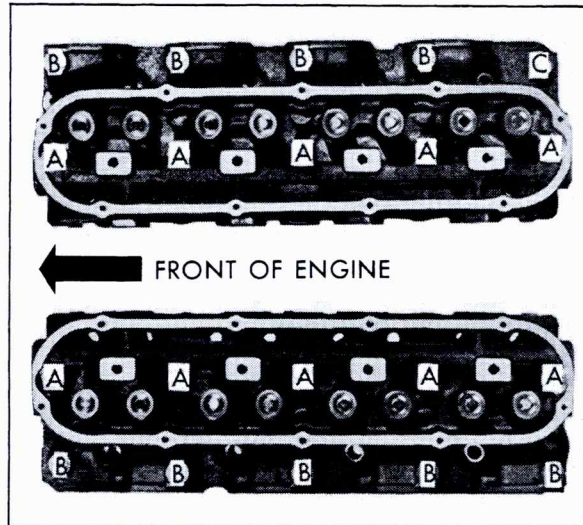

Fig. 6-115 Cylinder Head Screws
b. Installation (Fig. 6-115)
4. Install ten cylinder head screws finger tight in locations as indicated in Fig. 6-115.